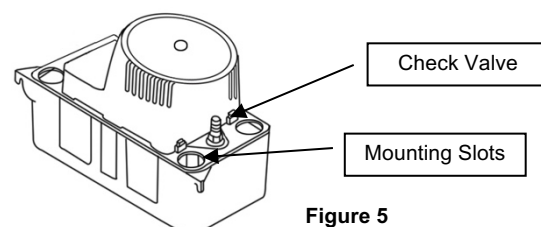

Figure 5
- Mounting the pump: the tank has two slots provided to mount the unit. The slots are located on the ends of the tank (Figure 5). The unit should be mounted either on the side of the air conditioner unit or nearby wall. The pump must be level and the inlet must be below the coil drain.
2. The outlet piping should be flexible tubing secured with a hose Clamp (not provided) or pipe (3/8-inch ID. maximum to prevent excessive flow back to the unit). From the condensate unit, extend the discharge piping straight up as high as necessary. Do not extend this line above the head/GPH of the particular model being installed. From this high point, slope the discharge line down slightly to a point above the drain area; then turn down and extend to a point below or approximately level with the bottom of the condensate unit. This will give a siphoning effect which will improve the efficiency of the condensate unit and will, in most cases, eliminate the need for a check valve (Figure 5). If it is not possible to slope the discharge line down, make an inverted "U" trap directly above the pump at the highest point.